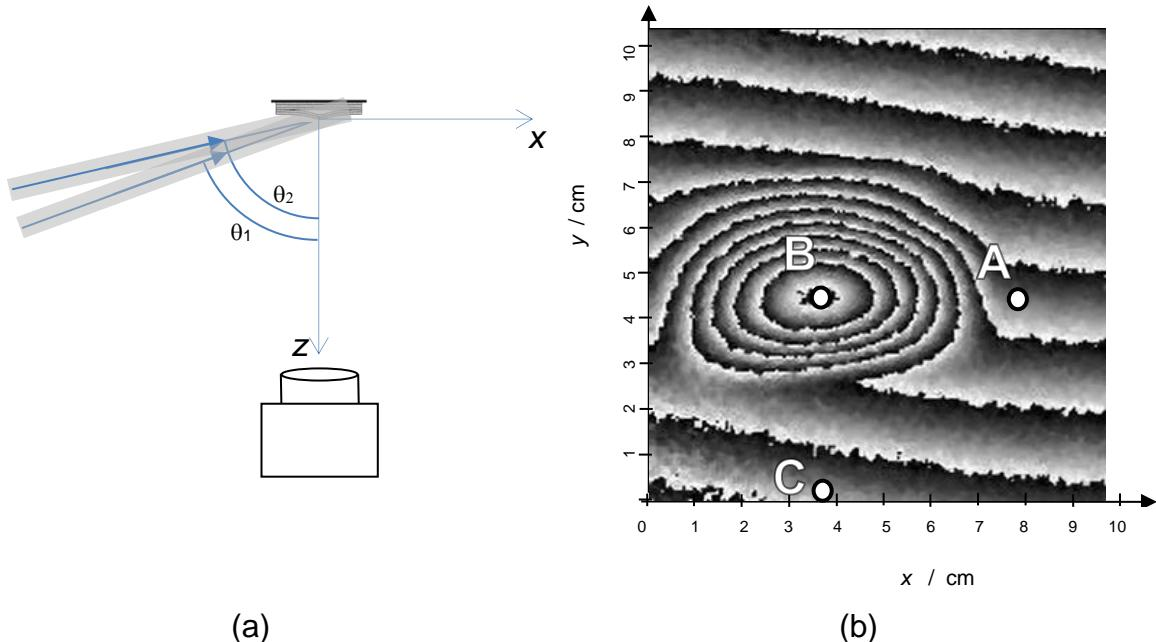

Figure Q4.
4. In 1970, J. A. Leendertz proposed an interesting configuration to reduce the sensitivity of out-of-plane speckle interferometers. Both illumination beams are on the same side of the z-axis and inclined at angles  $\theta_1$  and  $\theta_2$  to the observation direction, as shown in Figure Q4(a).
Figure Q4(b) shows a wrapped phase map obtained with the interferometer in Fig. Q4(a) (page 7) using a laser with wavelength  $\lambda = 532 \text{ nm}$  and illumination angles  $\theta_1 = 80^\circ$  and  $\theta_2 = 85^\circ$ . It corresponds to a composite panel with an internal delamination expanding due to a change in ambient pressure. The straight parallel fringes correspond to a rigid body tilt of the composite plate.